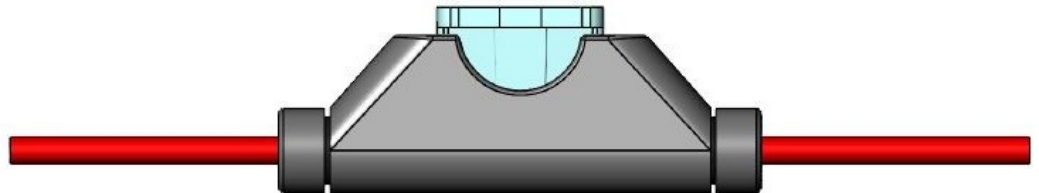

Figure 1 – Posi-Lock Fuse Holder Installation
- Within 12 inches of the battery, cut the wire and install the Posi- Lock Fuse. **NOTE:** See Figure 1 on the next page for instructions on how to install the Posi Lock Fuse Holder.